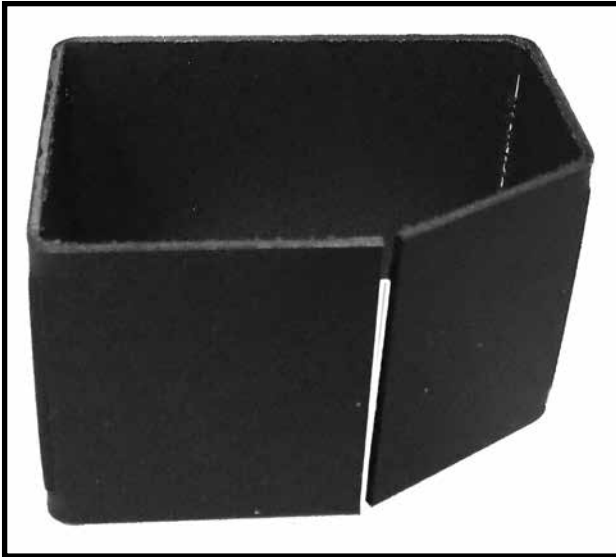
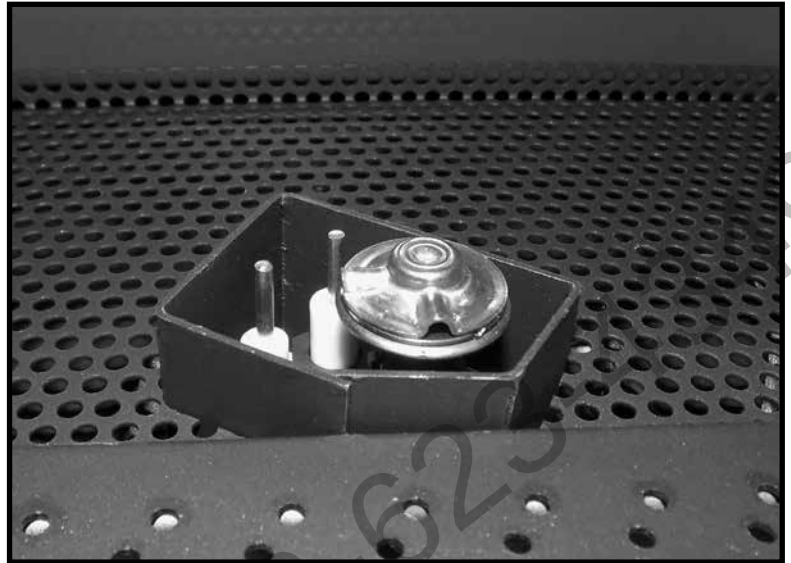

Figure 51: Pilot assembly shield.
Figure 52: Pilot assembly shield installed.
4. Place the pilot shield (Figure 51) over the pilot assembly and into the cut out of the glass media tray (Figure 52). Be sure to push the shield down far enough so that the pilot flame is able to reach the burner without being impeded by the shield wall itself.